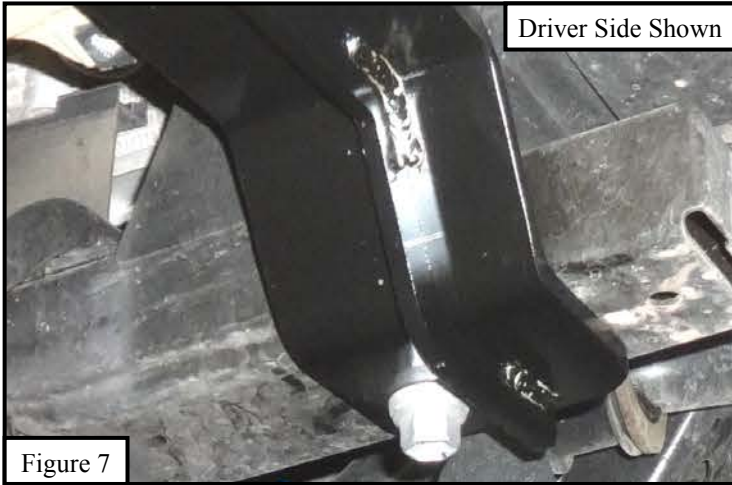

Figure 7
7. Loosely secure the mount brackets onto the mount location using the factory hardware located at the mounting location. See **Figure 7**.